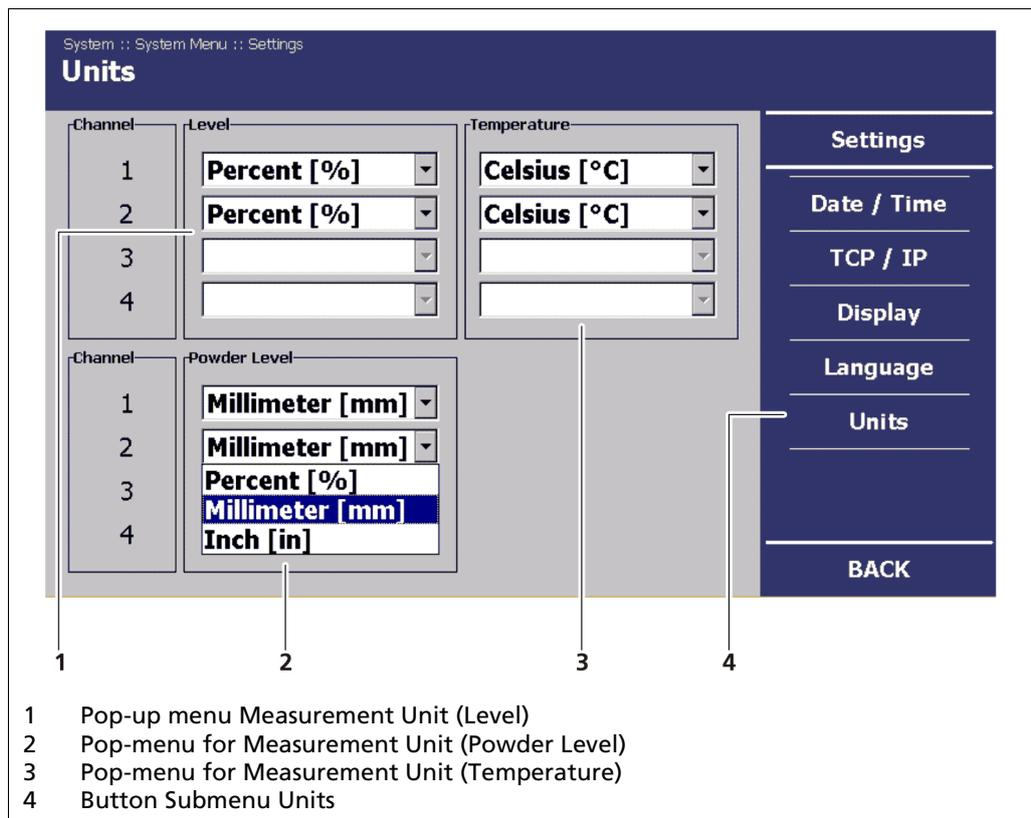

Fig. 32 System Menu, Settings - Units
1. In the **System Menu | Settings** click on <Units>, to change the measurement unit. (Fig. 32, item 3).
2. Click on the drop-down menu "Level" (Fig. 32, Item 1), to select the desired measurement unit.
4. Carry out the selection similarly for the "Temperature" unit (Fig. 32, Item 3), and for the "Powder Level" unit if available. (Fig. 32, Item 2).